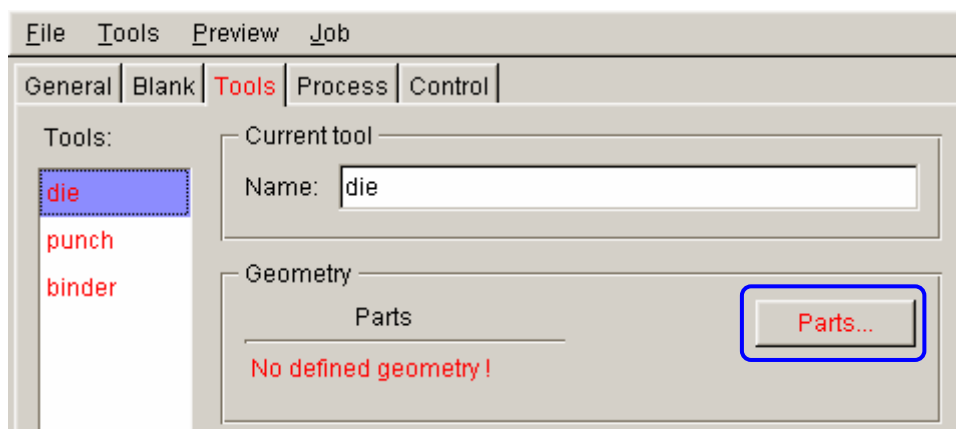

Figure 1.14 Die definition
4. Press the **Parts...** button to assign a part as die. See Figure 1.14.